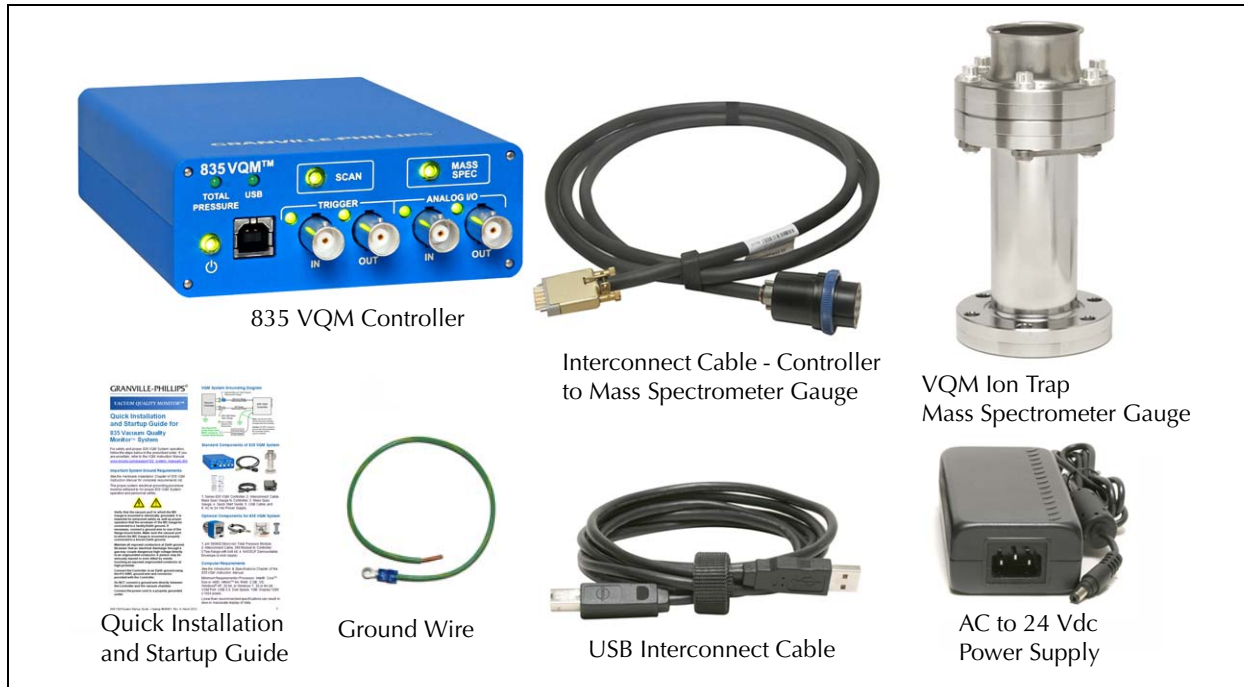

Figure 3-1 Standard Components of the Vacuum Quality Monitor System
Controller	The VQM Mass Spectrometer Gauge Controller. See Figure 3-1.
3.3.2.1 Standard Equipment - See Figure 3-1
The Mass Spectrometer Gauge (MS Gauge) connects to a high vacuum system and is designed to operate at gas pressures between UHV and 10^{-5} Torr. The MS Gauge is available in two different configurations: nude and demountable envelope. Figure 3-1 illustrates a Nude MS Gauge mounted in a demountable envelope (nipple).